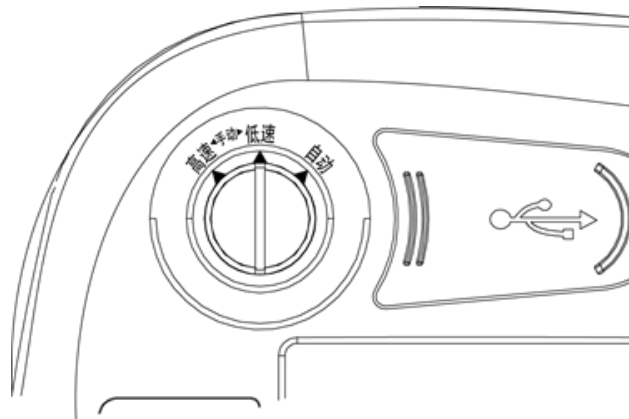

Figure 4-6 Teaching pendant mode switching key
- Step2. The mode switching key at the top left of the front of the robot teaching pendant rotates to the [manual low speed] mode. As shown in Figure 4-6.